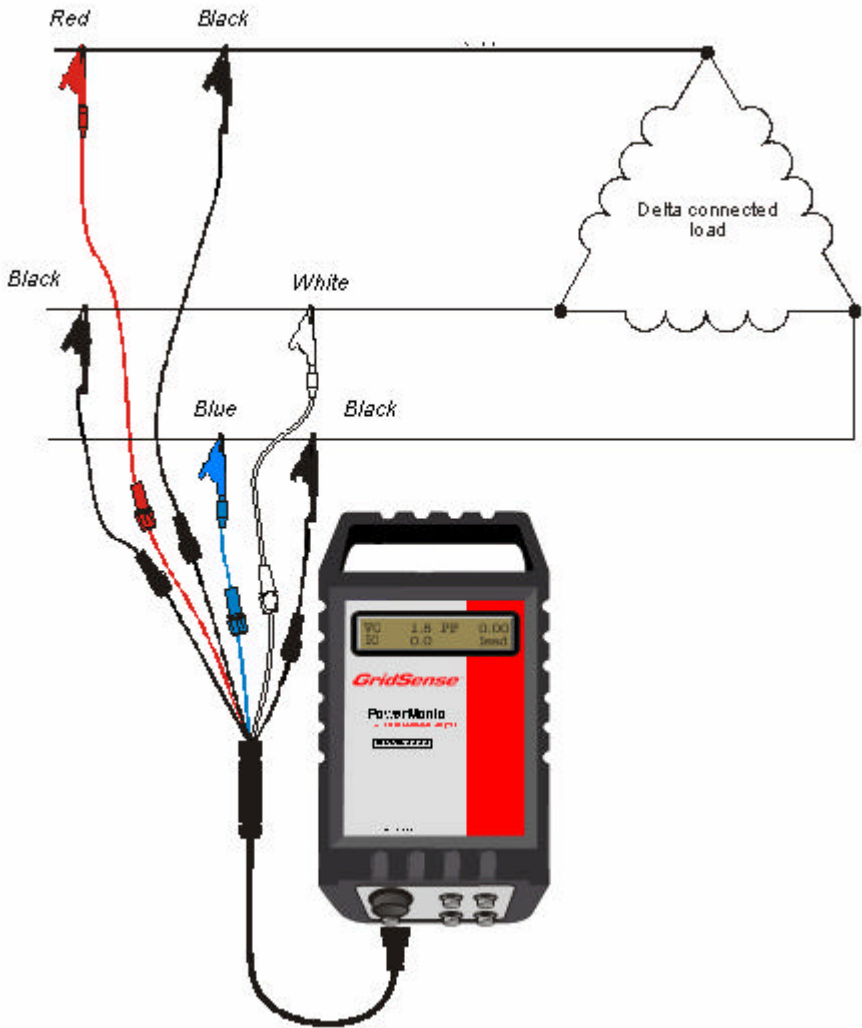

Fig 18 - Connecting the PowerMonic to a 3-phase 3-wire system
2. (Refer to Fig 18) Connect the CTs to the PowerMonic, observing correct phase connections.